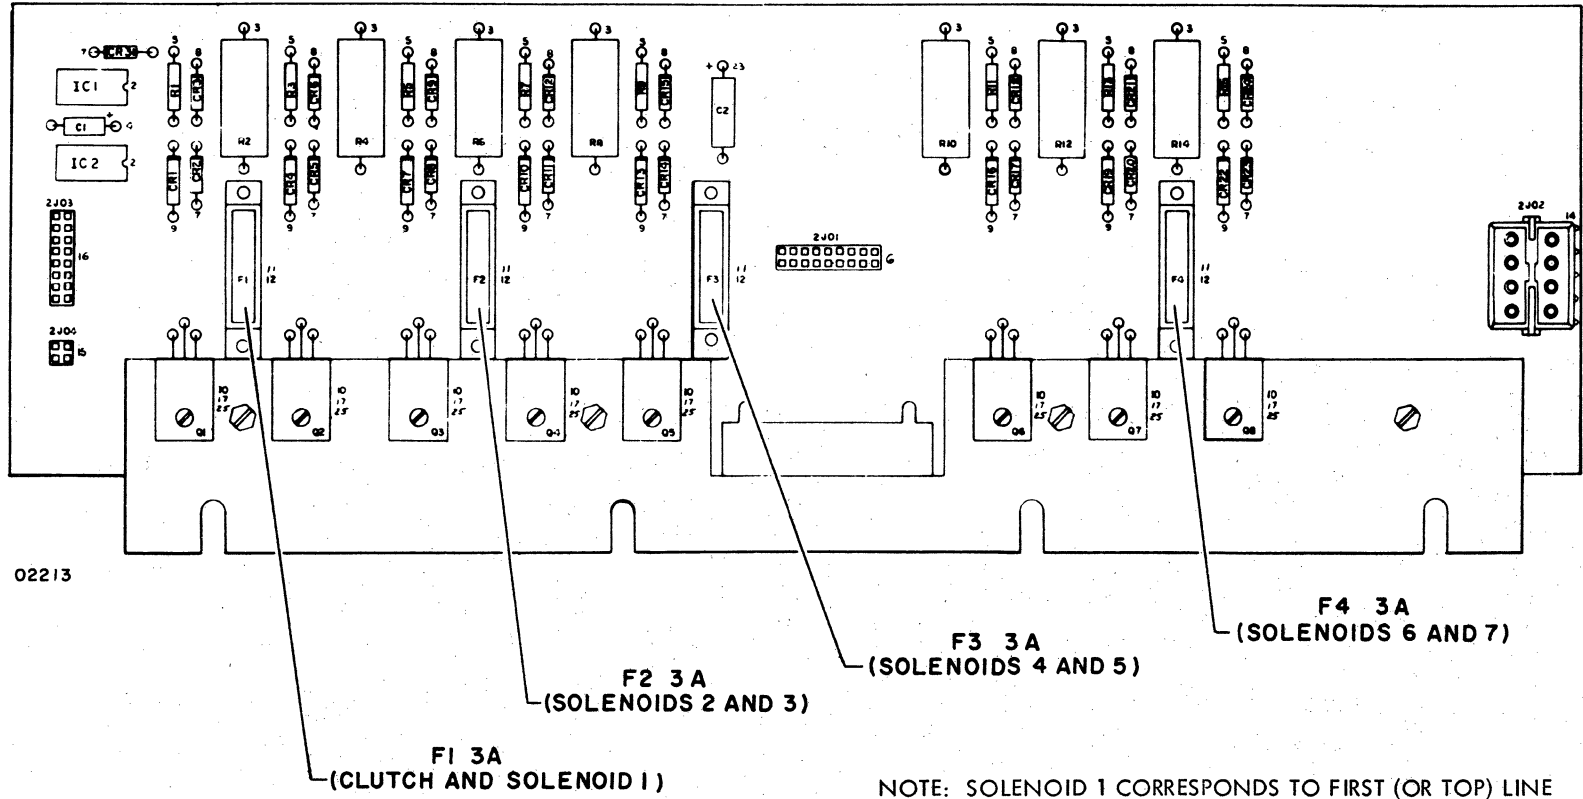

Figure IMP8. Solenoid Driver Board with Fuse Identification
- 4) Carefully pull each of the four connectors from driver board (these are 2J01, 2J02, 2J03, and 2J04 as shown on figure IMP8) being careful to note/mark which is top/bottom of each connector so proper reconnection is possible.
- 3) Carefully observe suspect fuse (figure IMP8) and replace with a new fuse if burned out.